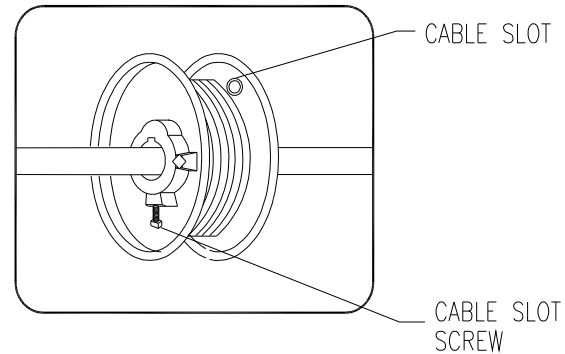

Figure 13
4.3.2. Install the springs as described before, but at the back of the horizontal tracks, facing the opening. Slide the cable around the pulley located at the exterior side of each horizontal track and then into the drum (figure 13)
- Position the drums at 1/2" of the tracks and tighten the screws. (figure 13)